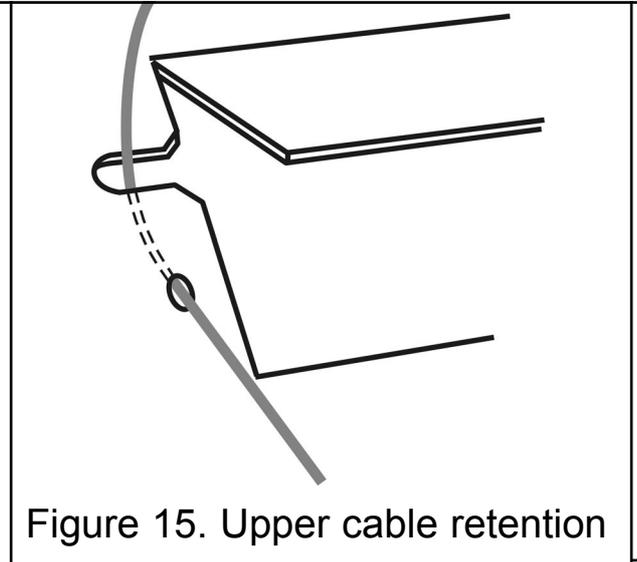

Figure 15. Upper cable retention
5. The rear of the hotbox has a slot and hole each side of the outlet opening. Assemble one end of the cable to the top of the fire by passing it through the small round hole and locking by positioning the cable in the adjacent slot. See figure 15. Give the cables a pull so that they grip.